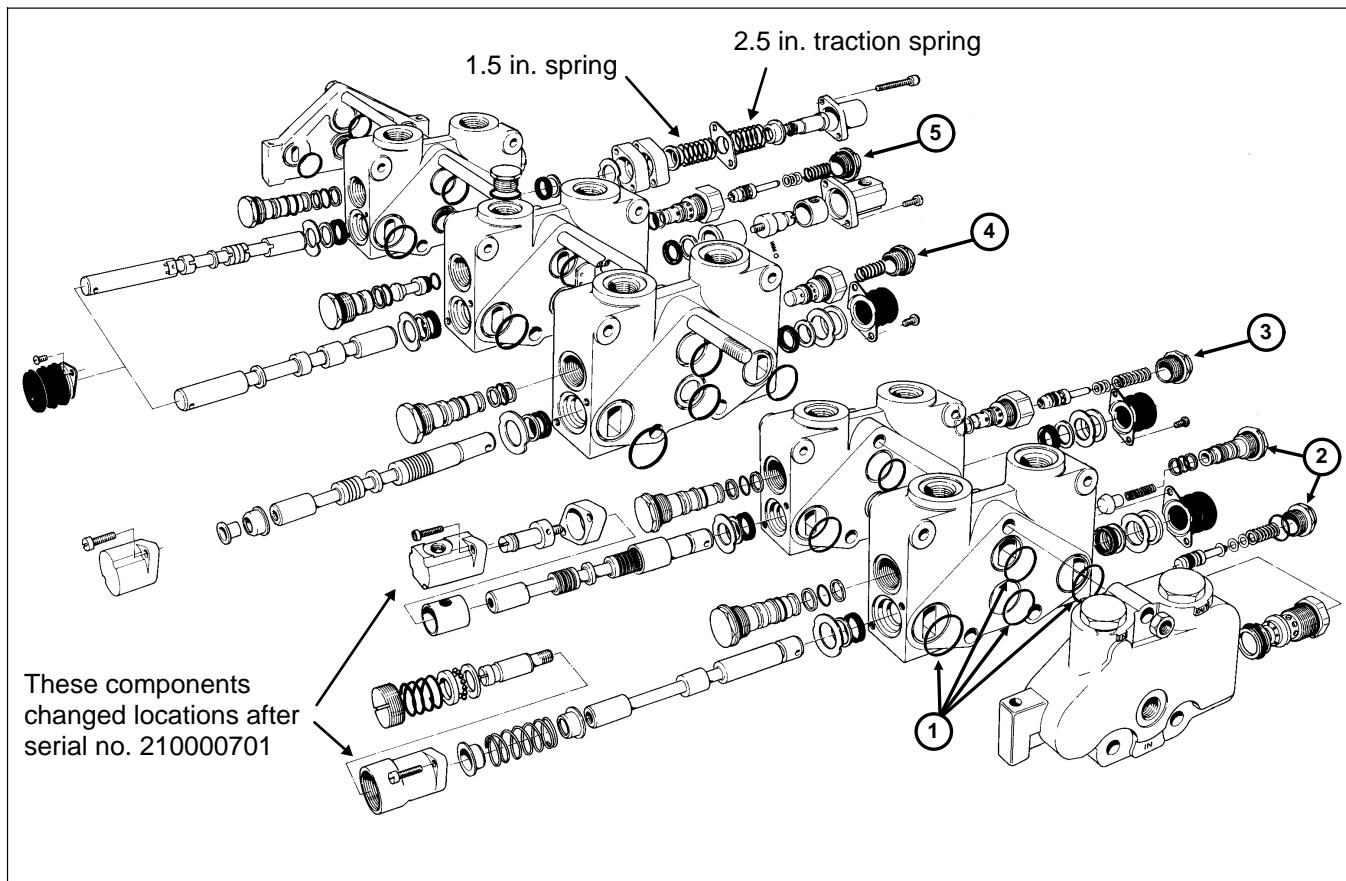

Figure 27
## Control Valve Internal Seal Replacement (Fig. 27)
2. Put the valve bank in a vertical position in a bench vise, and remove the locknuts from the three (3) bolts securing the sections together (Fig. 27).